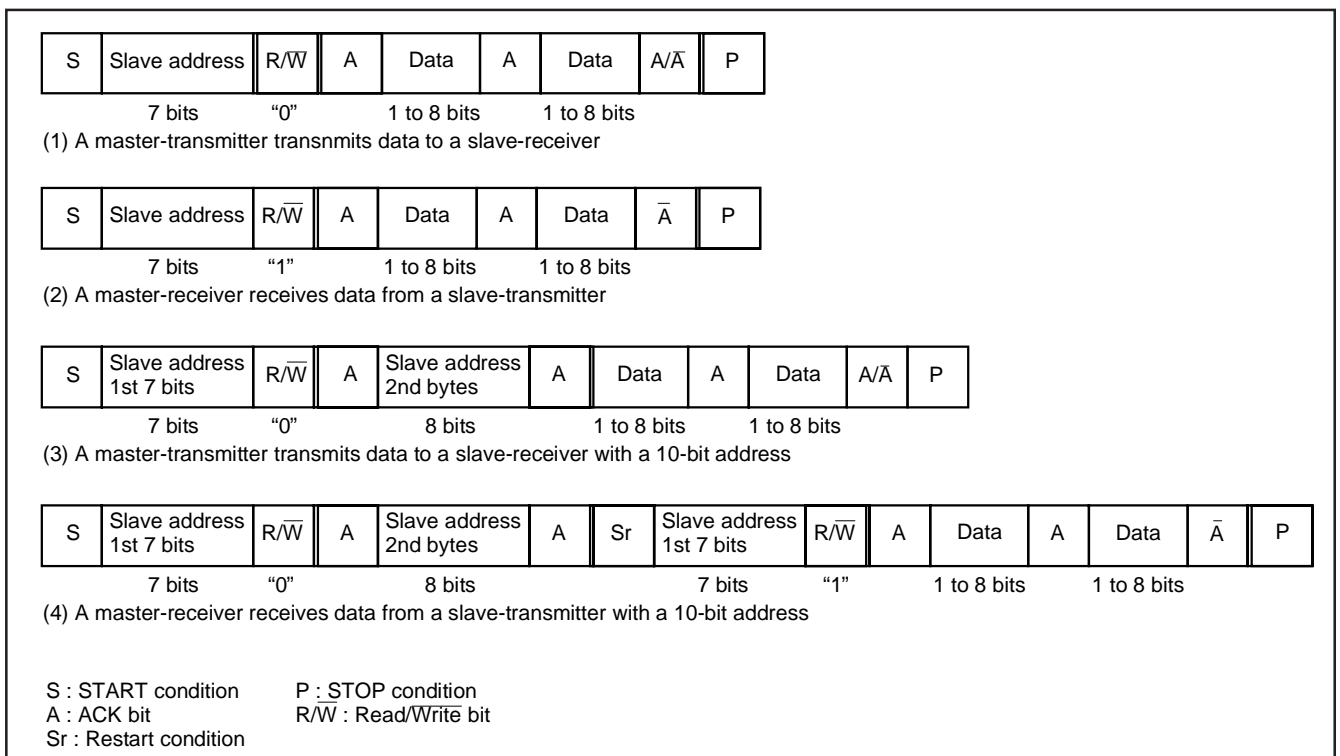

Fig. 46 Address data communication format
① 7-bit addressing format
To adapt the 7-bit addressing format, set the 10BIT SAD bit of the I²C control register (address 001516) to "0." The first 7-bit address data transmitted from the master is compared with the high-order 7-bit slave address stored in the I²C address register (address 001316). At the time of this comparison, address comparison of the RBW bit of the I²C address register (address 001316) is not performed. For the data transmission format when the 7-bit addressing format is selected, refer to Figure 46, (1) and (2).
② 10-bit addressing format
When the first-byte address data agree with the slave address, the AAS bit of the I²C status register (address 001416) is set to "1." After the second-byte address data is stored into the I²C data shift register (address 001216), perform an address comparison between the second-byte data and the slave address by software. When the address data of the 2 bytes agree with the slave address, set the RBW bit of the I²C address register (address 001316) to "1" by software. This processing can make the 7-bit slave address and R/W data agree, which are received after a RESTART condition is detected, with the value of the I²C address register (address 001316). For the data transmission format when the 10-bit addressing format is selected, refer to Figure 46, (3) and (4).